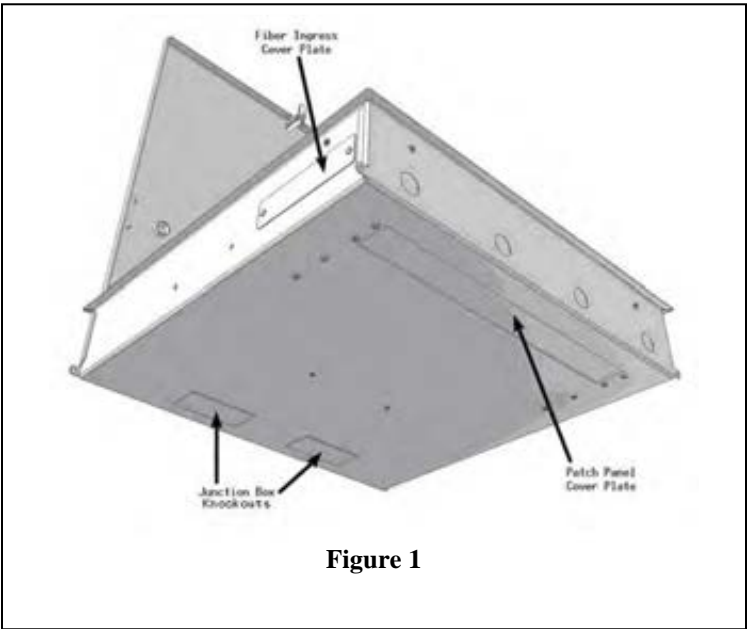

Figure 1
Step 1 – Place the *multimedia ceiling enclosure assembly* on the work surface with the door facing up and keyed doorway unlocked. If applicable, remove patch panel and fiber ingress cover plates (Figure 1) located on the outside edge and back of the box (near key lock) and install patch panel and CCH style fiber optic adapter panel according to the manufacturer's specifications.